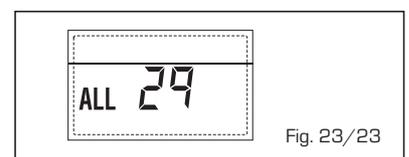

Fig. 23/23
- **HEATING RETURN PROBE ANOMALY "ALL 30" (fig. 23/24)**